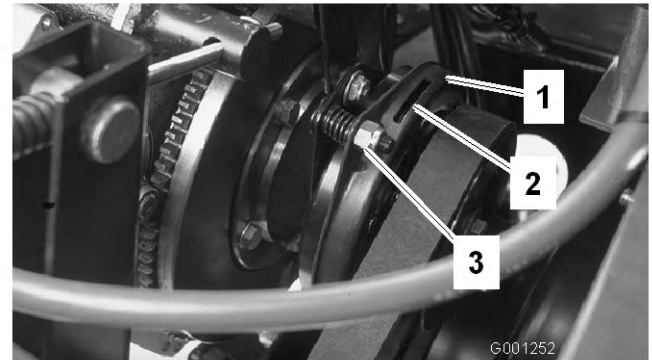

Figure 66
3. Adjust the air gap so that a 0.015 inch feeler gauge slides in between the clutch lining and friction plate (Figure 66). The gap can be decreased by turning the adjusting nut clockwise (Figure 66). The maximum service gap is 0.030 inch. Adjust all three air gaps.